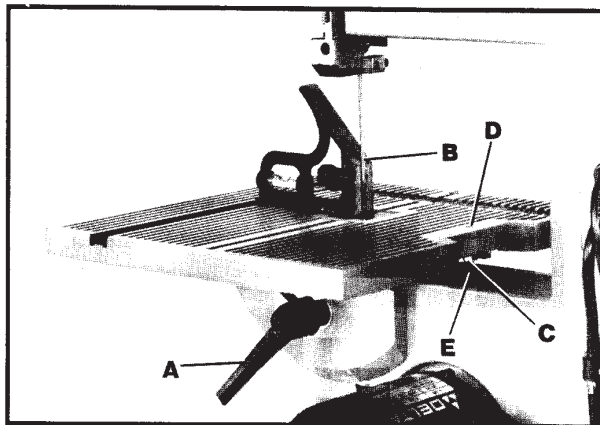

Fig. 27
1. Loosen the table tilting lock handle (A) Fig. 27, and tilt the table all the way to the back. Then tighten lock handle (A).
2. Place a square (B) Fig. 27, on the table surface with one end of the square against the side of the blade, as shown, and check to see if the table is 90 degrees to the blade.
3. If an adjustment is necessary, loosen table tilting lock handle (A) Fig. 27, and loosen nut (C). Using wrench supplied with the band saw, tighten or loosen screw (D) until end (E) of screw contacts the frame when the table is 90 degrees to the blade. Then tighten lock handle (A) and nut (C) and adjust pointer to point to the zero degree mark on the table tilt scale.